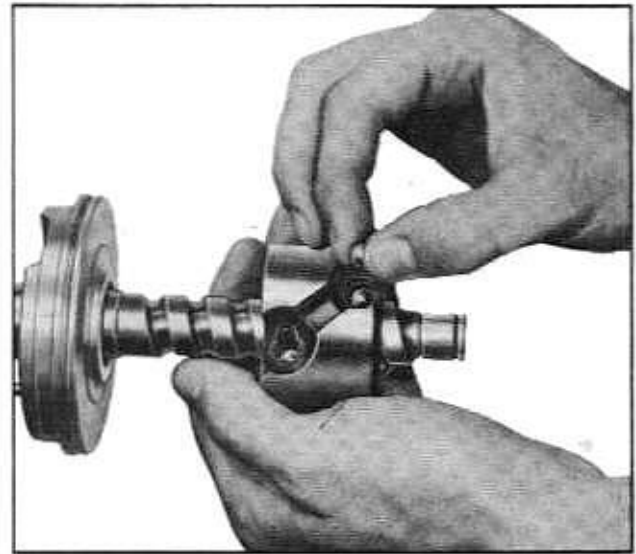

Fig. 9-49 Loading Balls Into Ball Nut
3. Align ball return guides with worm groove. Load 17 balls into ball nut. Drop balls into return guide hole farthest from adapter while slowly rotating worm counterclockwise to feed balls through circuit (Fig. 9-49).